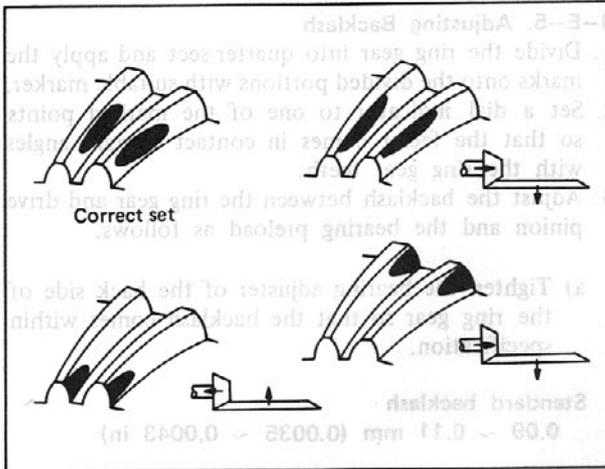

Fig. 9-37
6. Check the tooth contact of the ring gear and pinion by applying a thin coat of red lead on both sides of about six or eight of ring gear teeth and rotating the ring gear few times forward and backward. If the pinion position and backlash have been correctly set, the contact pattern should be obtained as shown in Fig. 9-37.